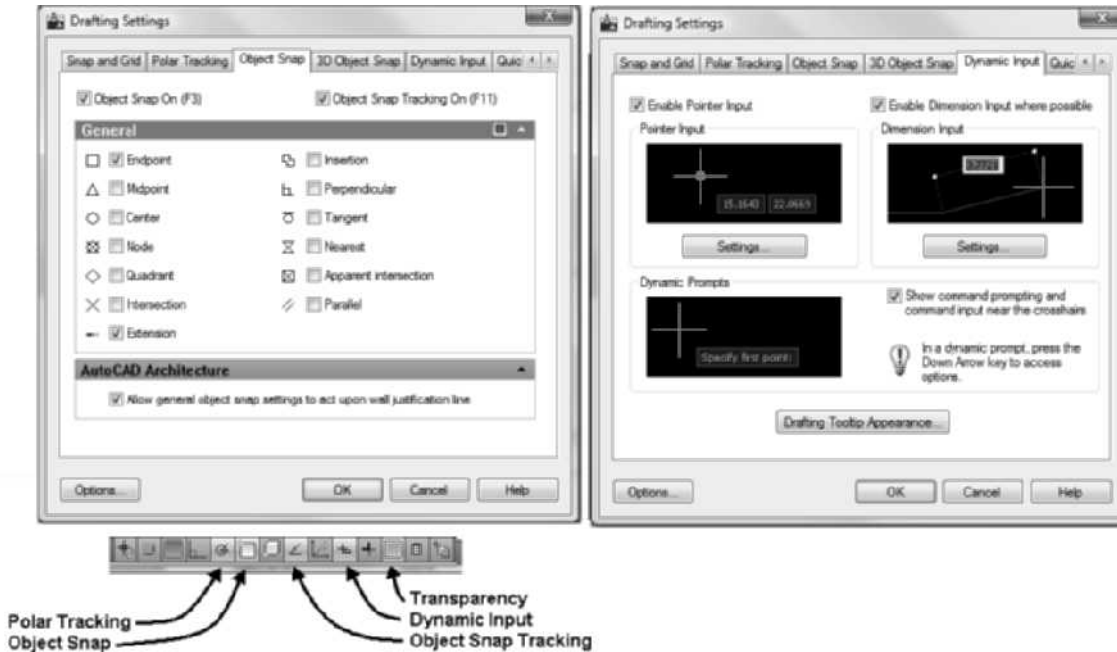

FIGURE 2.13 Object Snap settings
3. Right-click over the Object Snap toggle, and choose **Settings** to open the Drafting Settings dialog box. Choose the Endpoint object snap mode and Extension. Verify that Allow general object snap settings to act upon wall justification line is checked as shown in Figure 2.13.
4. Verify that only Polar Tracking, Object Snap, Object Snap Tracking, Dynamic Input, and Transparency are toggled ON in the status bar as shown in Figure 2.13. Right-click over the Dynamic Input toggle, and choose **Enable**.
5. Right-click over the Dynamic Input toggle, and choose **Settings**. Verify that the **Enable Pointer Input**, **Enable Dimensional Input where possible**, and **Show command prompting and command input near the crosshairs** checkboxes are checked as shown in Figure 2.13. Select **OK** to close Drafting Settings.